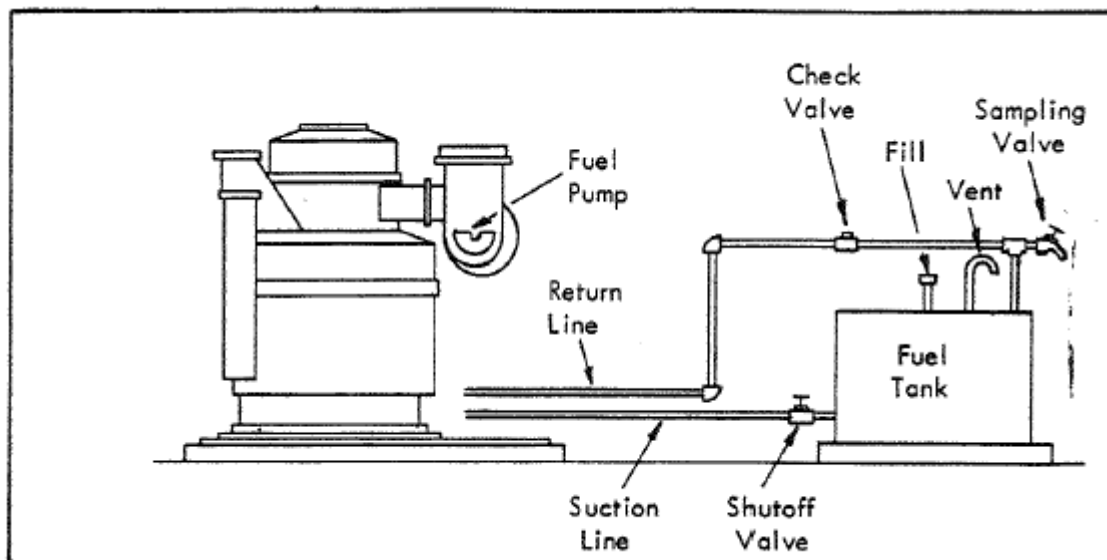

Figure 14, Fuel Tank Installation
10.1.4 If you use a floor mounted or an overhead tank; install a shut-off valve in the suction line ahead of the strainer to facilitate removal for cleaning. (See Figure 14)